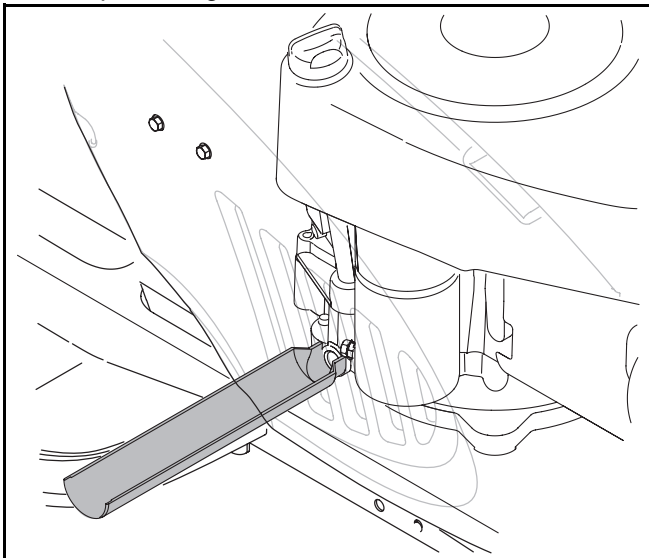

Figure 13
- Snap the small end of oil drain sleeve onto the oil sump. See Figure 13.